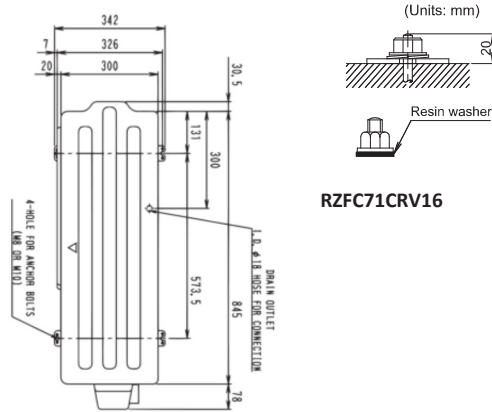

Fig : 1
- In accordance with the foundation drawing in Fig. 1, fix the unit securely by means of the foundation bolts. (Prepare 4 sets of M12 foundation bolts, nuts and washers each which are available on the market.)
- Fix the outdoor unit to the foundation bolts using nuts with resin washers. (See the left-hand of Fig. 1 drawing)